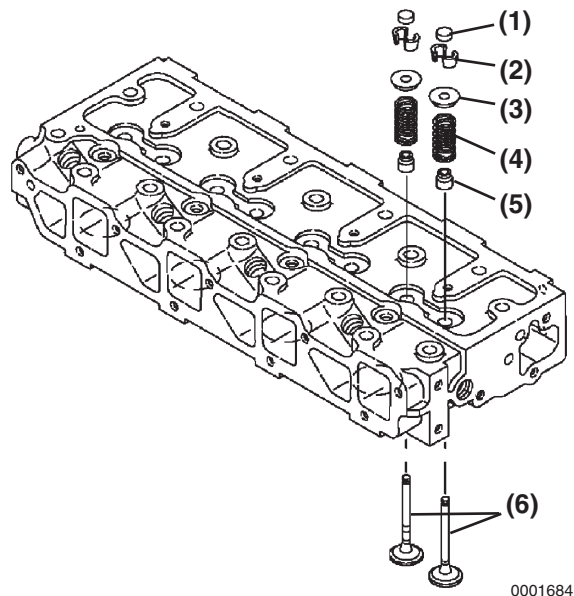

Figure 6-30
4. Place all the valves (Figure 6-30, (6)) in their proper location in the cylinder head.
5. Place the cylinder head on the workbench with the combustion side down to install the valve springs. Install the valve spring (Figure 6-30, (4)) and the spring retainer (Figure 6-30, (5)).
7. Insert the valve keepers (Figure 6-30, (2)) and slowly release the tension on the valve spring. Install the valve cap (Figure 6-30, (1)). Repeat the steps on all the remaining valves.